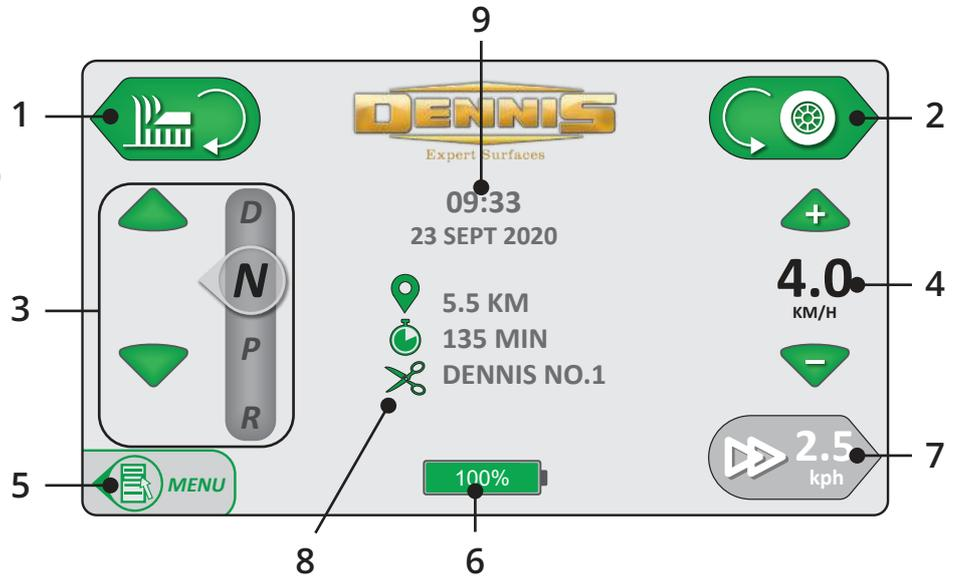

Fig.5 - Home screen overview.
On machine start-up it defaults to the Home Page (see Fig.5). From here you can view / action the following:
1. Press the power button (Fig.6A). The display screen will show a start up sequence (Fig.6B) until the home screen appears (Fig.5). If it does not display, check to ensure the emergency stop is not activated.